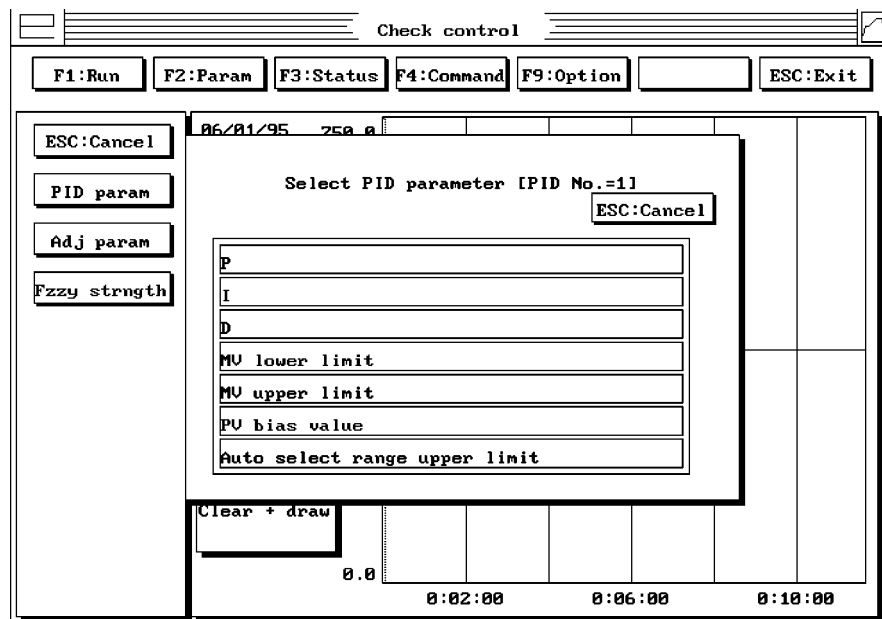

Figure 21
3. From the pop-up, double-click on 'P' (Figure 21). Note that the default value is 100% which should be adequate for most applications. If a new value is desired, simply type in the new value.